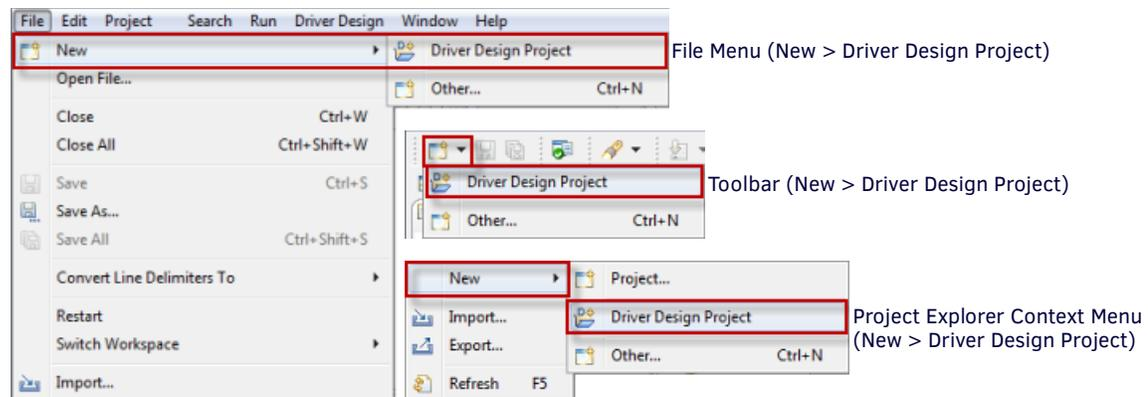

FIG. 8 File > New > Driver Design Project
1. Launch the *New Project Wizard*. There are several ways to do this (FIG. 8):